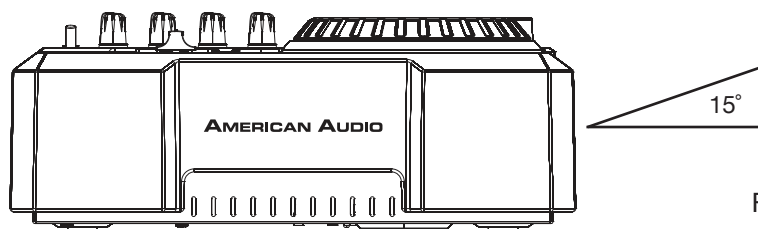

Figure 1
- The Encore 2000 will work normally when the unit is mounted with the front panel within 15 degrees of the vertical plane. If the unit is tilted excessively, discs may not be loaded or unloaded properly. **(Figure 1)**